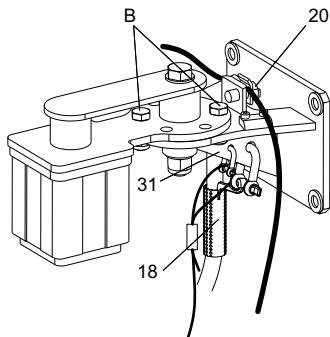

Fig. 10 Top fixation bracket with lifting and safety wires and cable sock
21. Mount the cable sock (18) to the top fixation bracket using the shackle, and pull the power cable through it to the desired position. See fig. 10. The power cable must be slightly tightened.
22. Remove the lifting wire from the winch and fit it to the wire clamp (20, fig. 10) on the top fixation bracket. Use the lifting wire as a relief for the power cable. For this reason, always tighten the lifting wire.